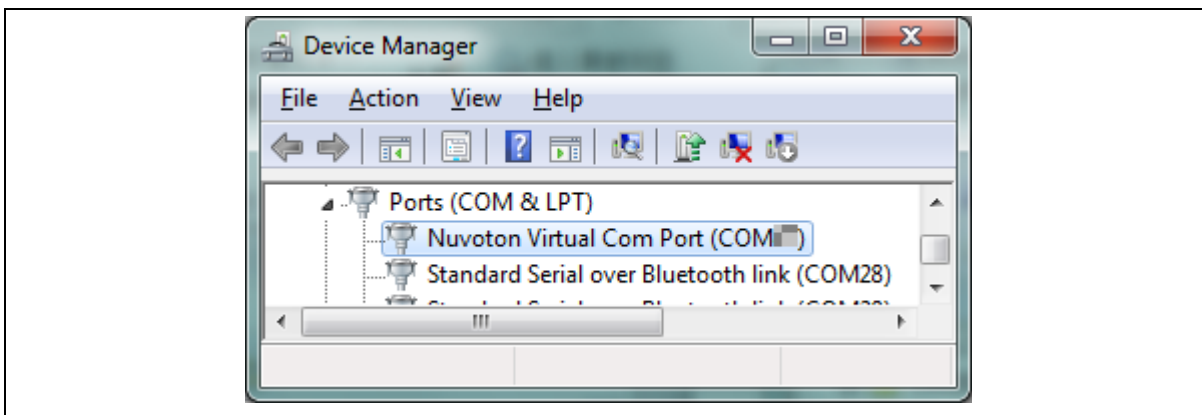

Figure 5-7 Device Manger
2. Find the "Nuvoton Virtual COM Port" on the Device Manger as Figure 5-7.